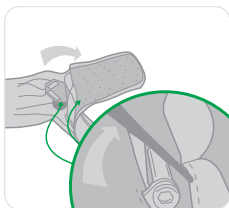

Figure 9
- Unzip the back panel of the backpack and inspect the harness connector for signs of damage, distortion, corrosion or cracking. Ensure that the fastening bolt is secure (Figure 9). If damage is apparent or the bolt insecure the Latchways PRD shall be removed from service and advice sought from MSA or authorised agent.